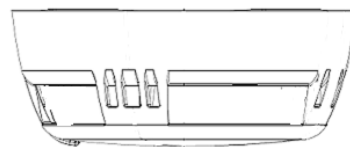

Figure 3
4. Continue to rotate a few degrees until the ONEDETECTOR2_AP has fully engaged in the ONEBASE_AP. (fig3)